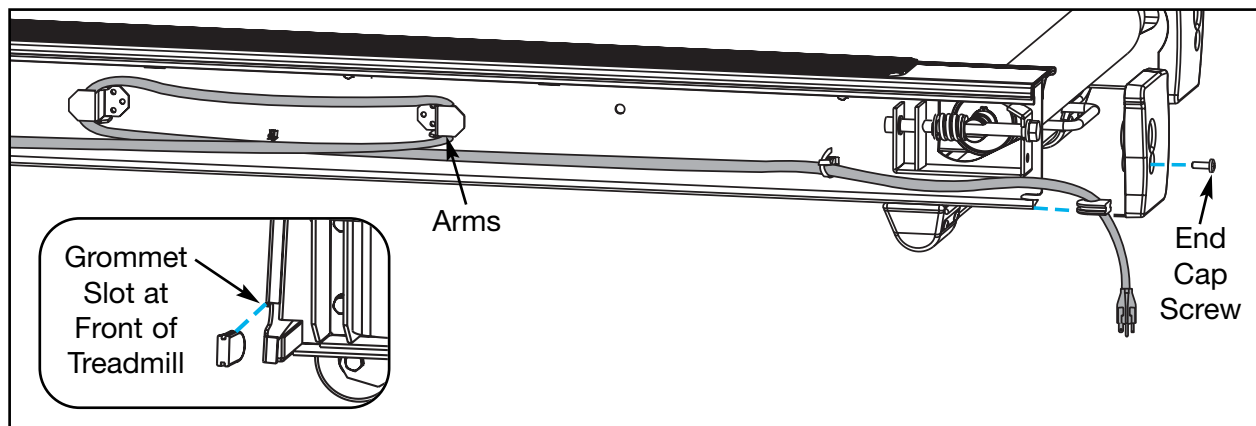

Figure 11
- d. Using a Phillips head screwdriver secure the left end cap. See Figure 11.
- B. Wind the excess power cord onto the arms. See Figure 11.